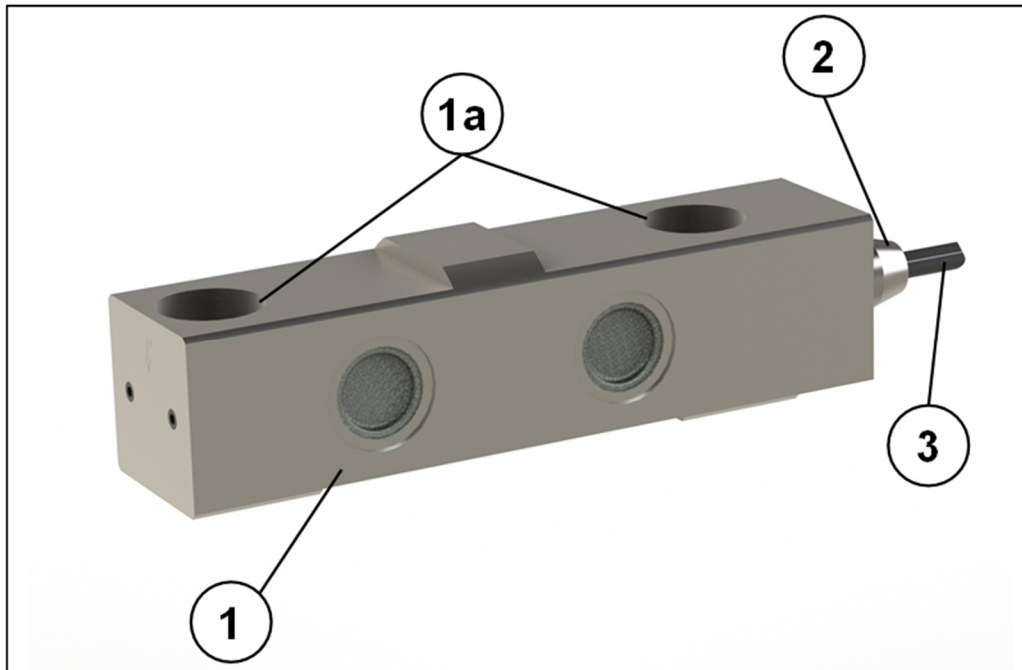

Figure 1: Normal force transducer
The BROSA Type 0250 Normal Load Transducer is designed to detect the force in two-way shear connections in or on machines and devices of all kinds. Figure 1 shows the typical layout:
The normal force transducer (1) is mounted on the correspondingly shaped bearing surfaces (2), of the double shear connection and secured against unintended movement by means of the aforementioned features (see Figure 1). On the opposite surface of the normal force transducer, a defined force contact surface is located centrally. The force  $F$  applied there is transmitted to the measuring electronics by evaluation of the resulting deformation of the measuring body and output as an electrical signal.